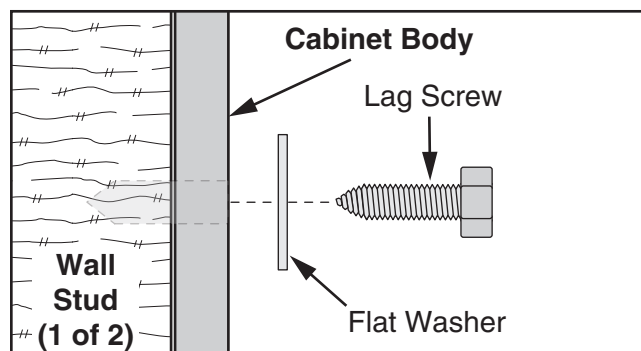

Figure 5. Mounting cabinet to wall.
To mount, locate wall studs at desired mounting location. Pre-drill (2) $\frac{1}{4}$ " mounting holes into wall cabinet to align with each stud, and secure cabinet to the wall (see **Figure 5**). Due to the load capacity of the cabinet, always mount directly to wall studs!